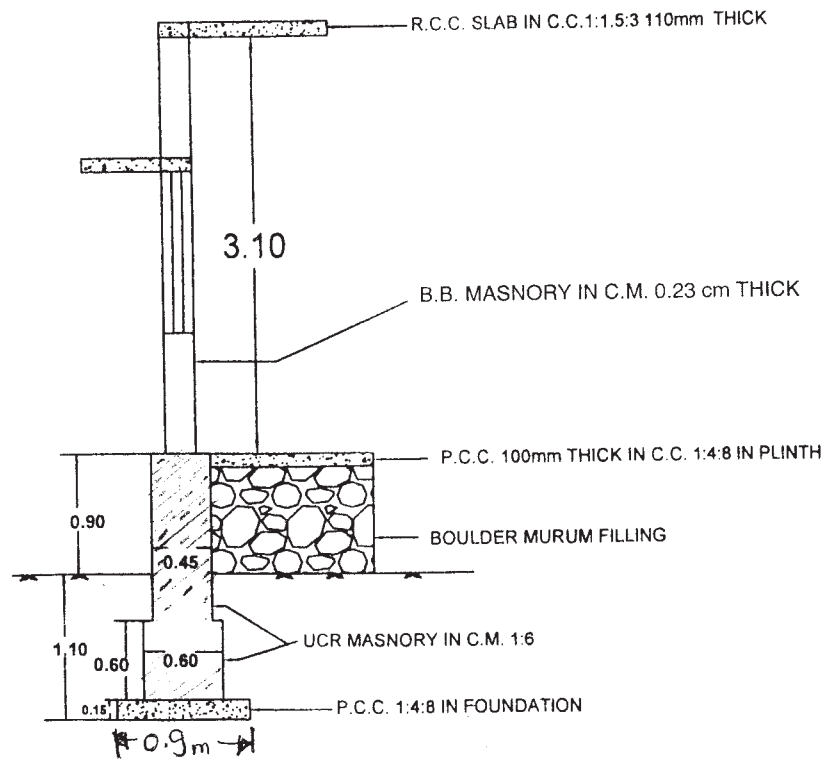

Fig. No. 1(b)
- b) Calculate the quantity of 12 mm thick cement plaster in CM 1:4 from Fig. No. 1(a) and (b)